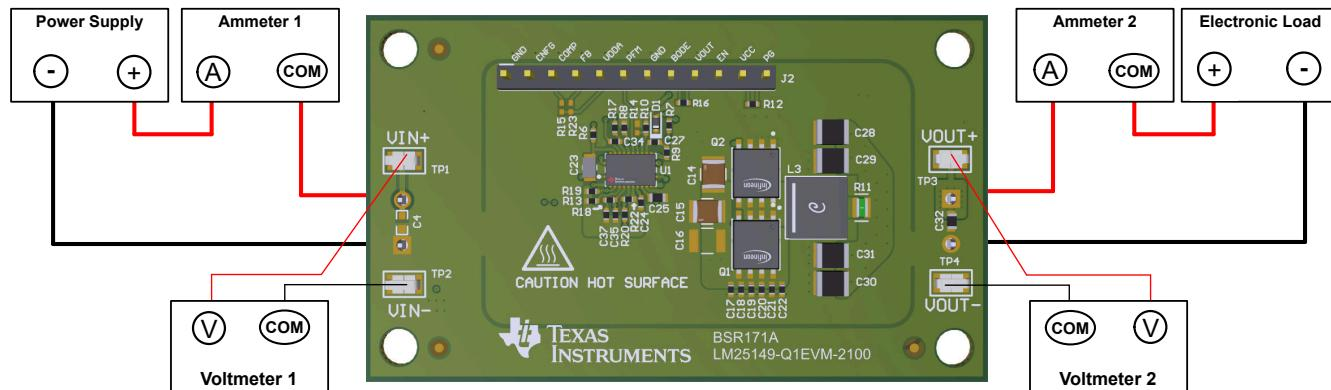

Figure 5-1. EVM Test Setup
Referencing the EVM connections described in Table 5-1, the recommended test setup to evaluate the LM25149-Q1EVM-2100 is shown in Figure 5-1. Working at an ESD-protected workstation, make sure that any wrist straps, boot straps, or mats are connected and referencing the user to earth ground before handling the EVM.
- Prior to connecting the DC input source, set the current limit of the input supply to 0.1 A maximum. Ensure the input source is initially set to 0 V and connected to the VIN+ and VIN- connection points as shown in Figure 5-1. An additional input bulk capacitor is recommended to provide damping if long input lines are used.